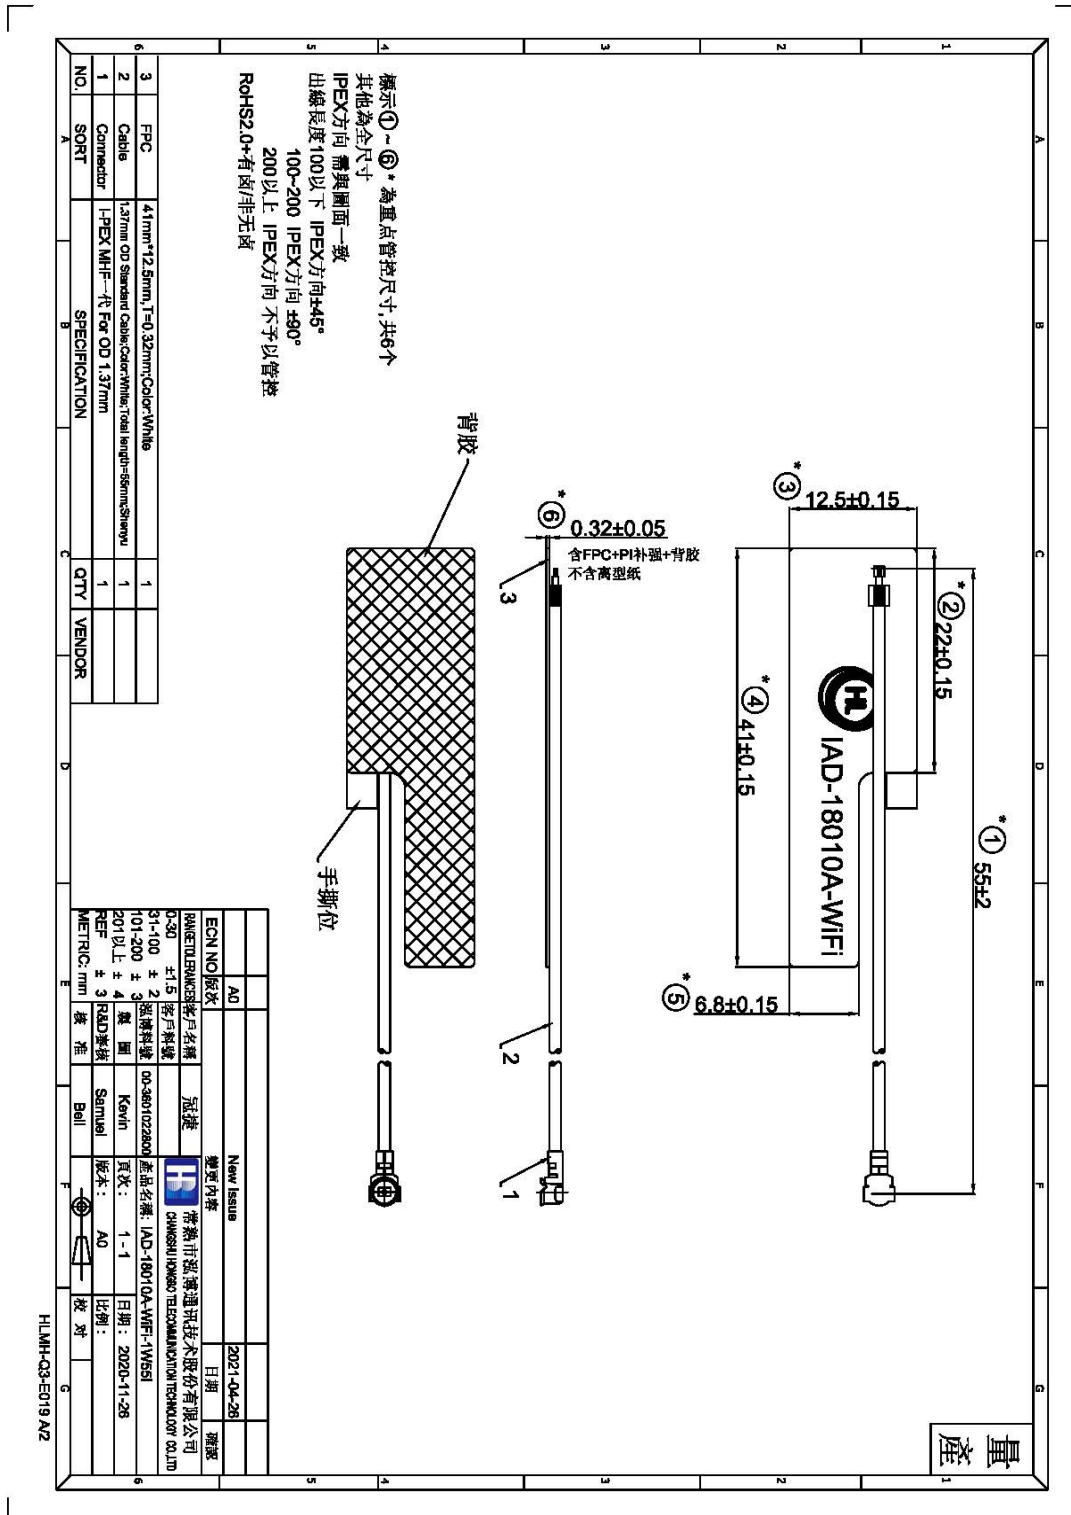

Figure 8. Assembly Drawing.
- Figure 8.Assembly Drawing.13